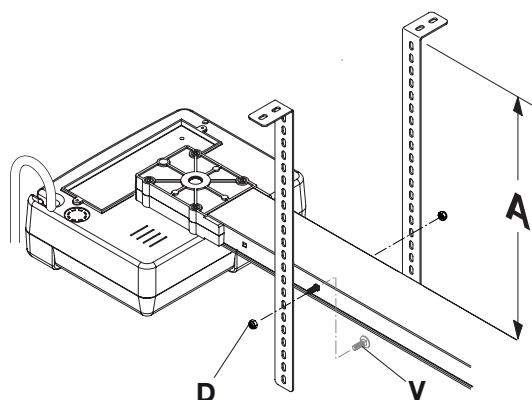

Fig.20
2) Apply the brackets JMP.2 to the guide as indicated in figure 20, selecting the hole that corresponds to the X measurement of the "Preliminary checks" paragraph as much as possible, fix them by inserting the two screws V, blocking them using the two nuts D.